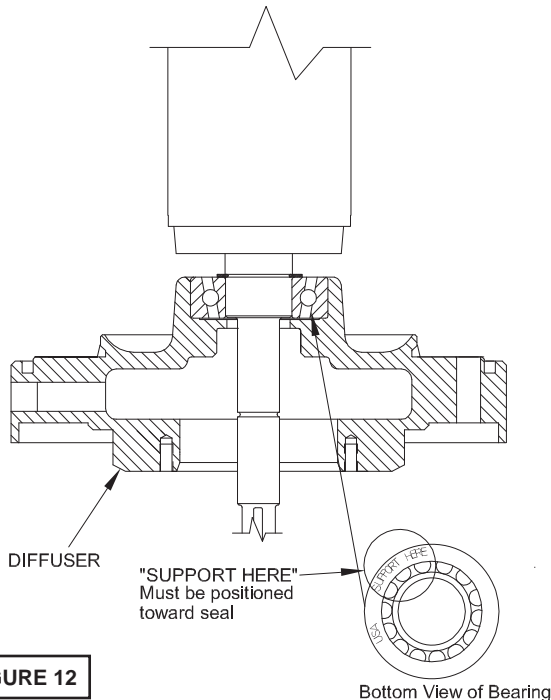

FIGURE 12
Set the stator/frame assembly and the discharge case in a vertical position with the discharge case down. Slip the outer case (21) over the frame (5). Press bearing (7) onto discharge end of rotor shaft and press bearing (46) with bearing retainer (57) onto suction end of rotor shaft. It is **IMPORTANT** that this bearing be installed as shown in Figure 12. The outer race of bearing (46) that is imprinted with the words "**SUPPORT HERE**" must be positioned toward the diffuser (9). Axial thrust after start up is in the direction towards the impeller. Inner race of bearing has more surface area on top side when installed correctly. When installed correctly, there will be movement